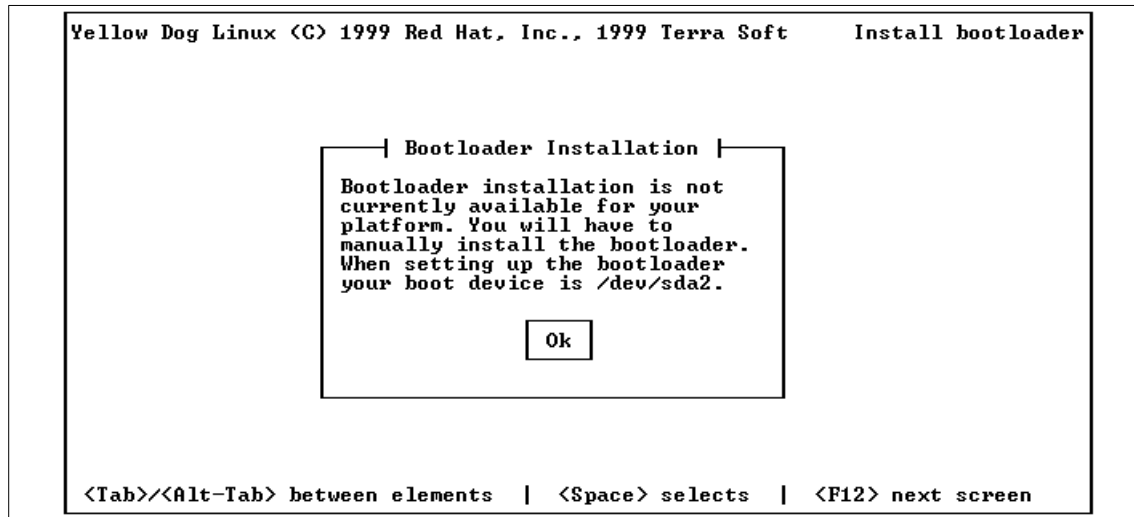

Figure 49. Message About Bootloader
26. At the time of writing, the quik 2.0 bootloader is available by FTP. If it is not installed, you may see the message shown in Figure 49.